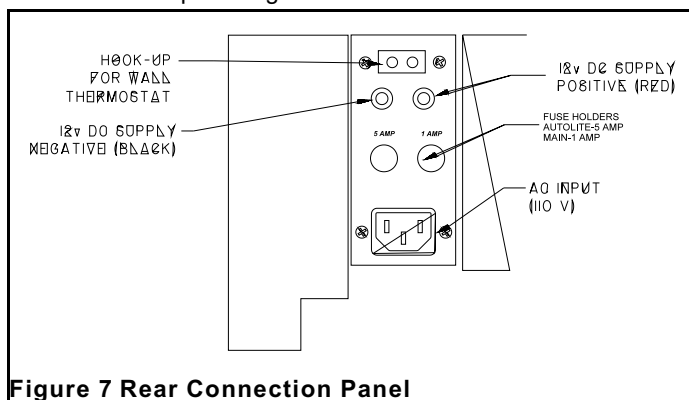

Figure 7 Rear Connection Panel
The following is a step by step procedure for installing the optional wall thermostat. Note connection terminals on left side of unit at rear (**Figure 7,8**). Use 18/2 thermostat wire for the installation.
- b. Remove factory jump wire and hook up thermostat wires to terminals (**Figure 7,8**).